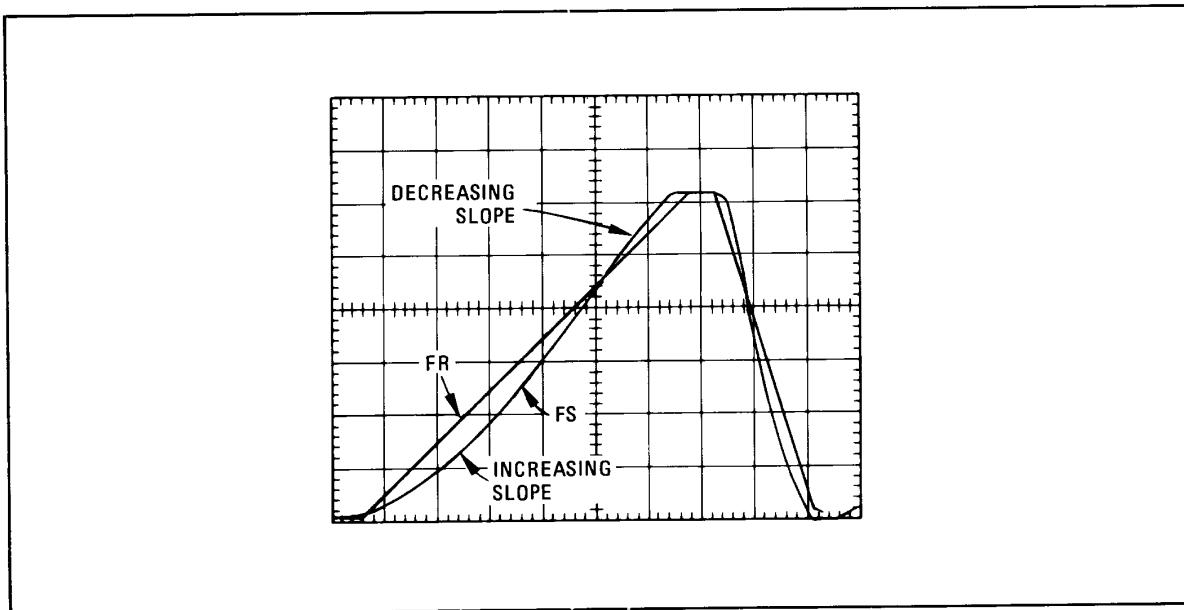

Figure 8-31. FR and FS Waveforms
The function of the Shaper is to remove non-linear tuning characteristics of the oscillators in the RF Source (A7). The FREQ REF (FR) voltage at TP4 is linear, with a sensitivity of 100 MHz/V throughout the frequency range of 0 to 1300 MHz (0 to +13V). The sensitivity of the oscillators in A7, however, is non-linear; that is, the voltage representation of frequency is not constant throughout the tuning range. The Shaper yields a waveform (FS) at TP5 that compensates for the non-linearity of the oscillator outputs so that the RF signal out of the mixer is linear over the frequency range of 0 to 1300 MHz. Figure 8-31 shows the linear waveform FR and the compensating waveform FS.
In Figure 8-31, note the changing slope of the FS waveform compared to the linear slope of the FR waveform. As the FR voltage at TP4 ramps from 0 to +13V, the slope of the FS waveform (which starts gradually) increases until the FR voltage is approximately +7V; the slope of the FS